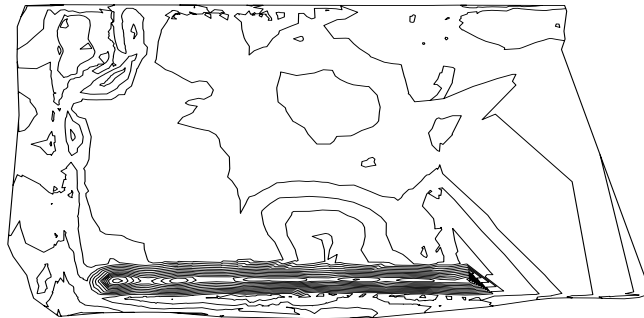

Figure 3-56 The **EG Surface** displayed in the drawing area
1. Enter **ZE** in the command line and then press ENTER; the surface is displayed with a surface border, the major and minor contours, as shown in Figure 3-56. This is due to the default surface style settings of the template file.